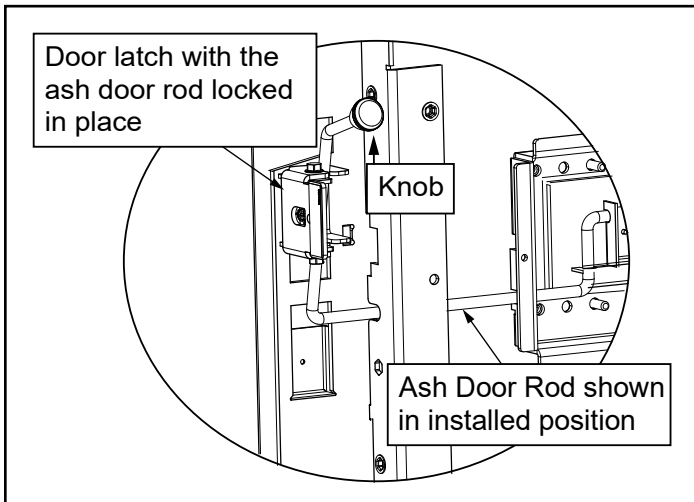

Figure 22.2
10. Add knob to handle rod (**Figure 22.2 on page 22**).